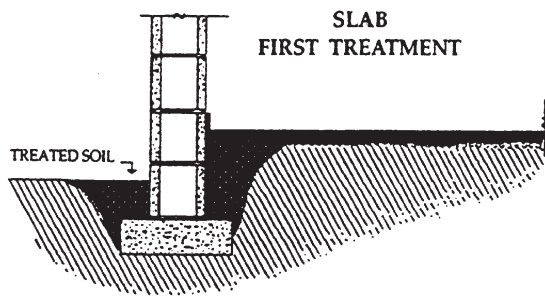

Figure 6-1. Termiticide treatment of the fill material prior to pouring a concrete slab protects wood in the building from termite attack.
**Horizontal Barriers.** The termiticide is applied over the entire underslab area and also under any attached porches, terraces, carports, and garages where the fill consists of sand, soil or unwashed gravel (**Figure 6-1**). Hollow block voids are injected with termiticide to create a continuous barrier. The termiticide should be applied so that it reaches the footing.